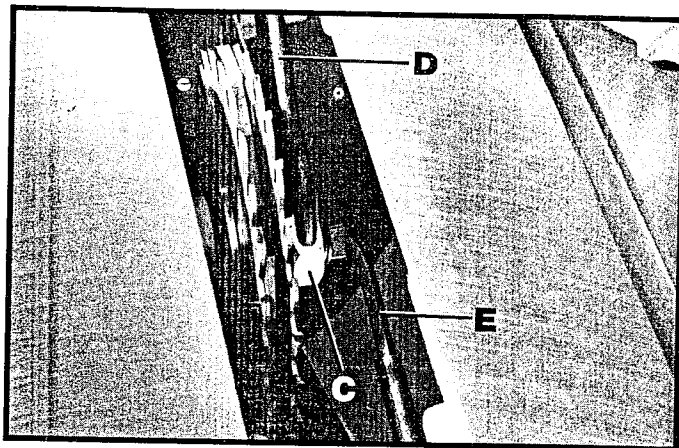

Fig. 5
2. Install the required width of dado cutters on the arbor extension and install the arbor nut (C) Fig. 5. NOTE: If necessary, the standard 1/4" wide spacer can be used between the arbor nut and dado blade to tighten the dado cutters on the arbor, or for very narrow dado cuts the accessory 43-823 1/2" or 1" wide spacers can be used. Tighten the arbor nut (C) Fig. 5, with wrench (D) while holding arbor with allen wrench (E) inserted into end of arbor.